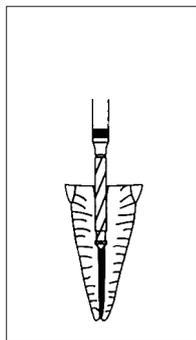

Fig. 1
- d) Enlarging the canal or removal of the root filling. (Fig 1)